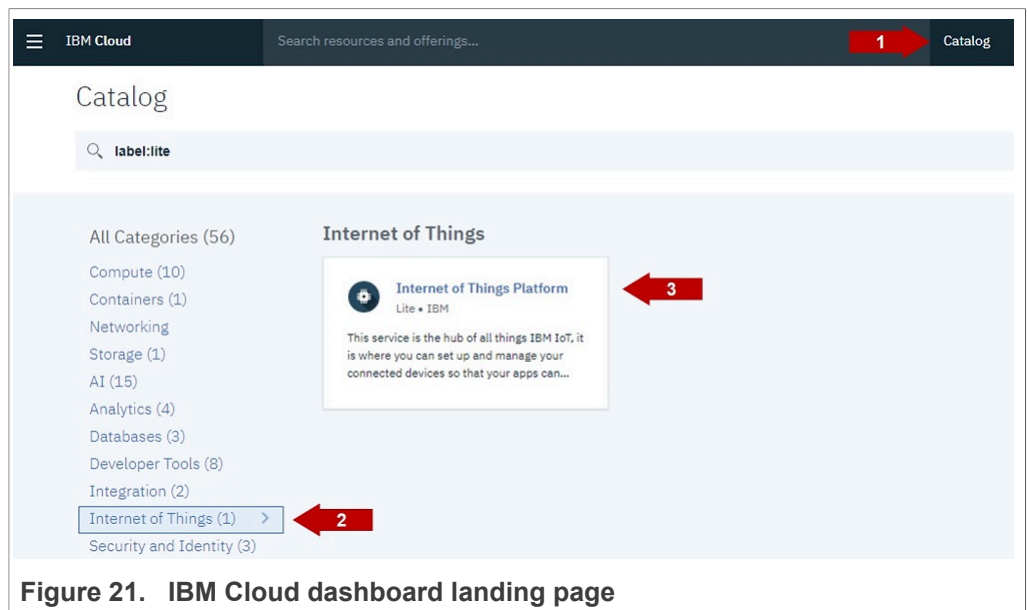

Figure 21. IBM Cloud dashboard landing page
3. After signing in, you will land in IBM cloud dashboard. To access Watson IoT platform, select *Catalog* , then select *Internet of Things* and click *Internet of Things Platform* as shown in Figure 21: